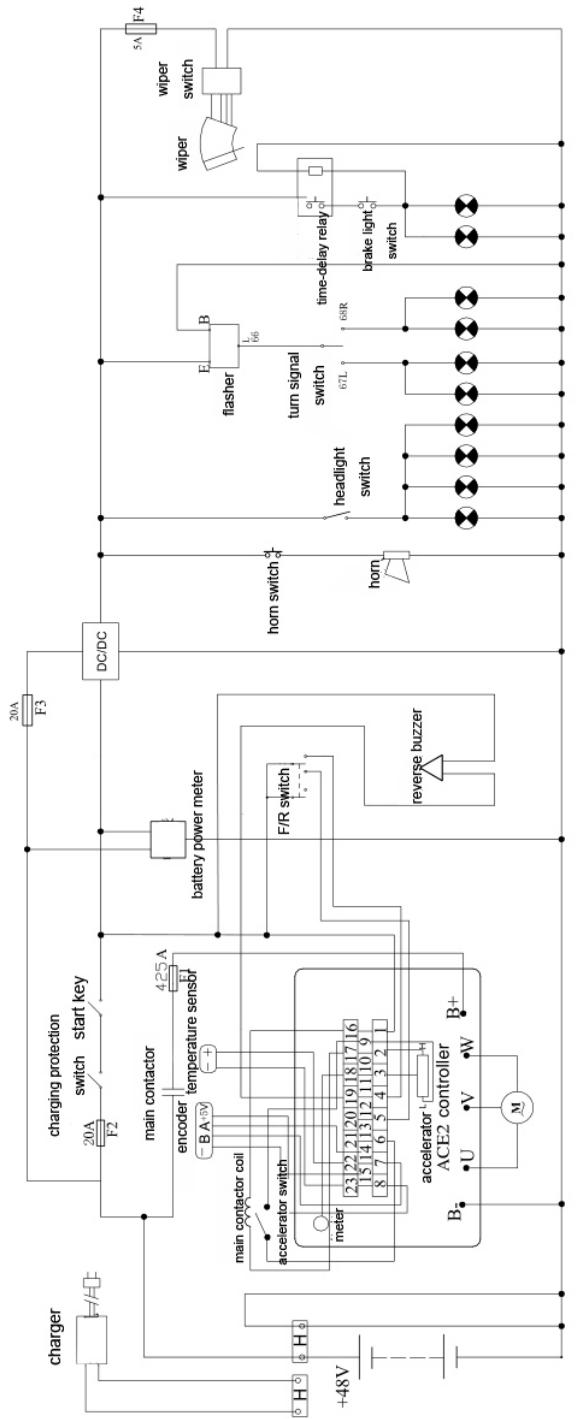

FIG.6
6)Wiring diagram for vehicle 48V with Zapi Controller ACE2 (FIG.6)